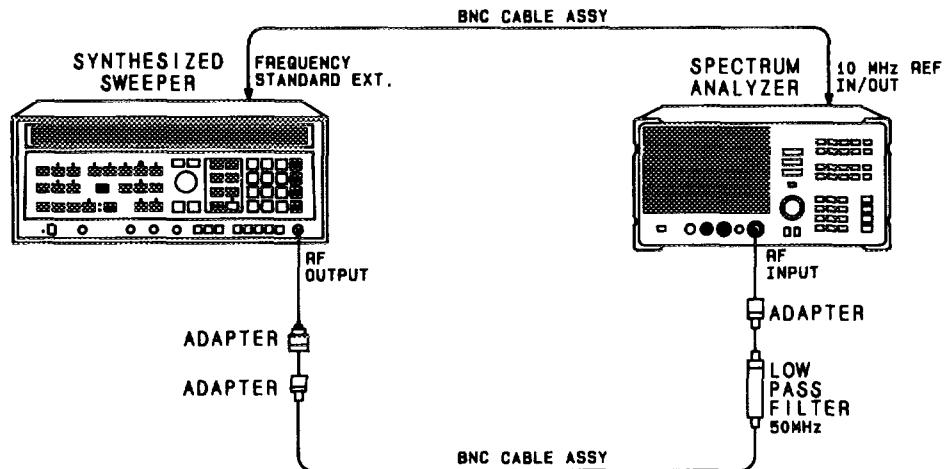

Figure 3-15. Second Harmonic Distortion Test Setup, Band 0
1. Connect the equipment as shown in Figure 3-15, using the 50 MHz low-pass filter and BNC cable.